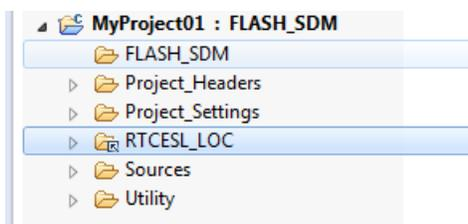

Figure 1-9. Projects libraries paths
5. Click Finish, and you will see the library folder linked in the project. See Figure 1-9
6. Tick the box Relative To, and select RTCESL_LOC next to the box. See Figure 1-9. Click OK.